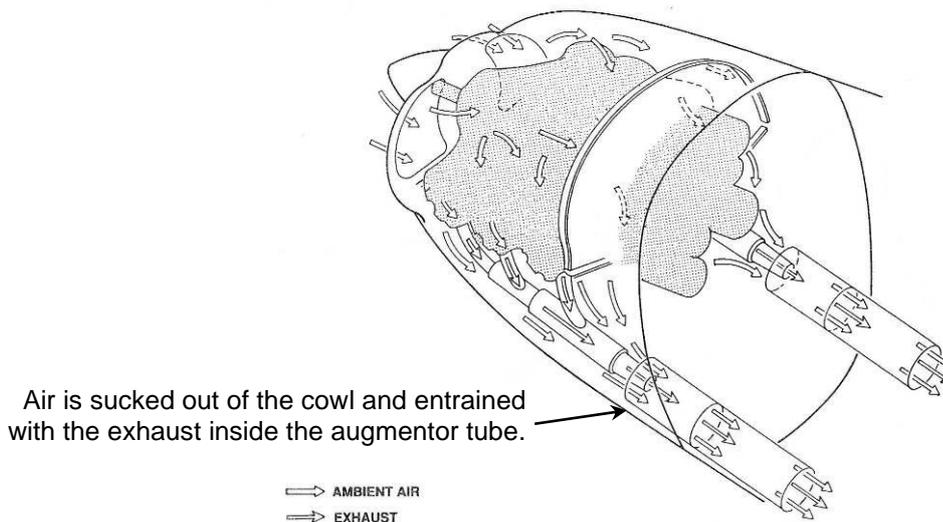

Figure 65. Augmentor Exhaust System
- Augmentor type exhausts (Figure 65) can also be used to suck air out of the cowlings.
- For amphibian or seaplane aircraft using a pusher engine installation the methods outlined above can use the propeller to suck air out of the cowls, but ultimately the effect is limited and can conflict with cooling requirements in other modes of flight. For these installations some form of active venting for the cowls – such as flaps, fans or an augmentor-type exhaust system (See Figure 65) may be required.